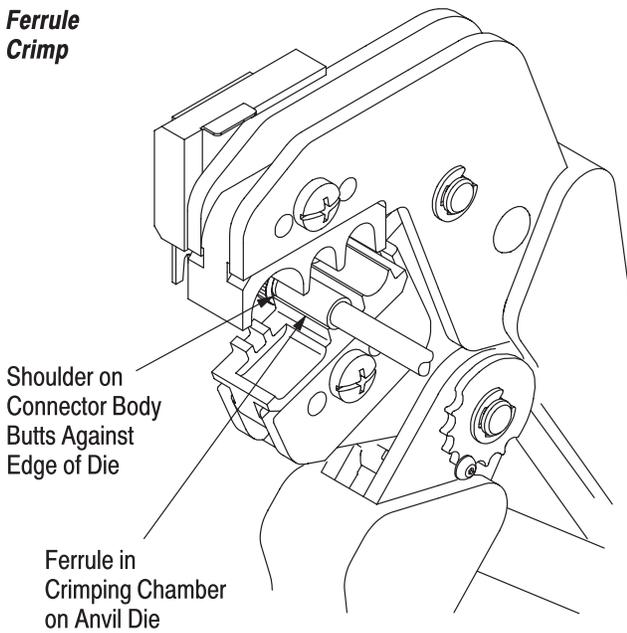

Figure 4
4.2. Crimping the Ferrule (Figure 4)